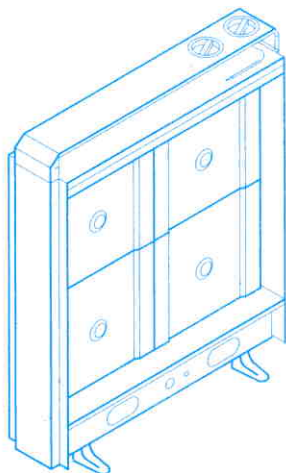

Fig. 2
- 8.- Place the storage bricks carefully, with the flat side facing the back of the heater. Arrange two rows of bricks (Fig. 2).